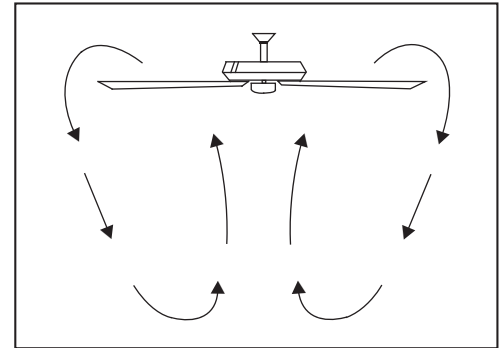

Figure 23
**Cool weather** - (Clockwise Direction) An upward air flow moves warm air off the ceiling as shown in Figure 23. This allows you to set your heating unit on a lower setting without affecting your comfort.